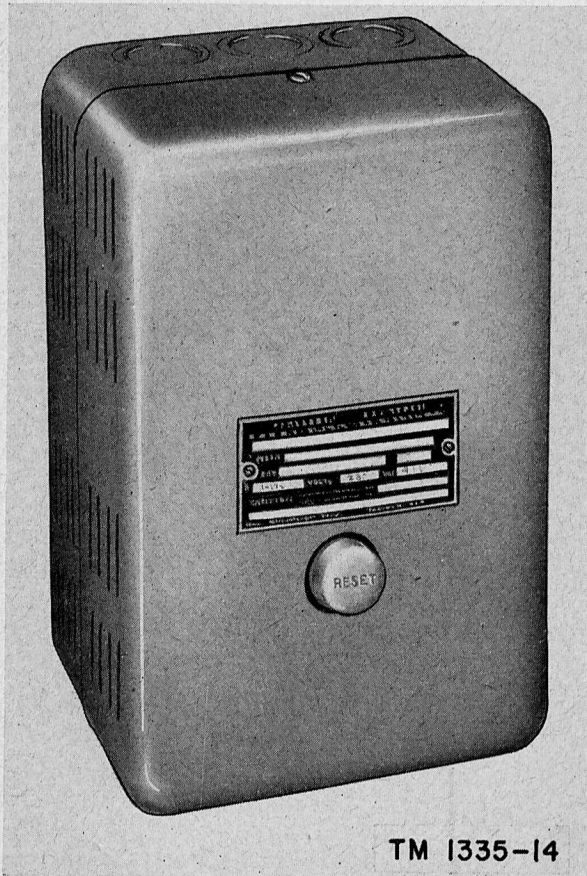

Figure 12. Motor starter SA-287/SPN-11.
b. *Motor Starters.* Except for electrical differences due to their individual voltage ratings of 24, 32, and 115 volts, respectively, Motor Starters SA-285/SPN-11, SA-286/SPN-11, and SA-287/SPN-11 are alike (fig. 12). The motor starter automatically starts and stops the motor generator when the POWER switch on the azimuth and range indicator is turned on or off. Each starter is housed in a sheet-steel, wall-mounting case. A ratchet-type mechanical timer is mounted in the lower left corner of the starter panel. A